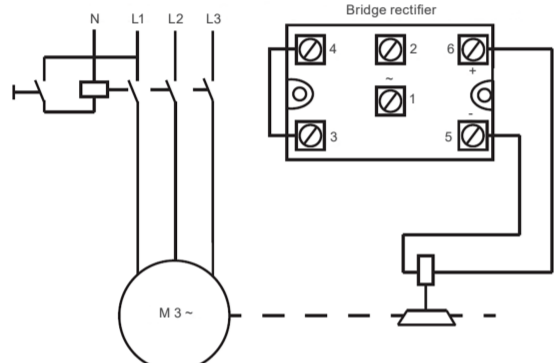

Figure 2.1: Connection diagram of the bridge rectifier for normal braking
A. **Normal braking:** the bridge rectifier of the brake coil can be supplied directly from the motor terminals, without interruption, as shown in Figure 2.1 and Table 2.1.
B. **Fast braking:** for fast braking, the bridge rectifier must be connected as shown in Figure 2.1 and Table 2.1.